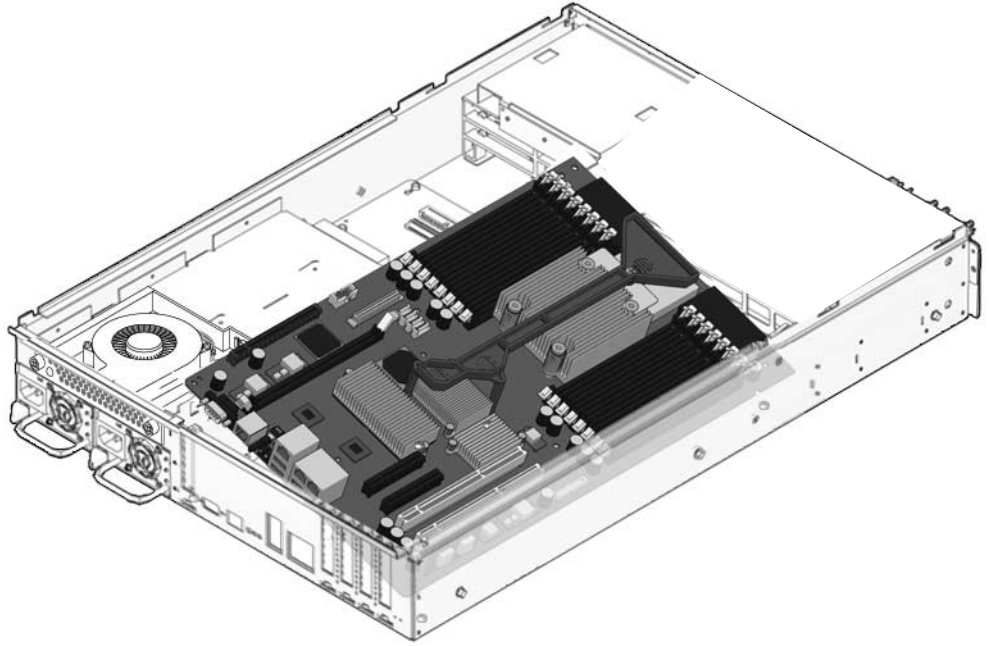

FIGURE 5-15 Installing the Motherboard Assembly
2. **Tilt the motherboard assembly over the interior wall into the chassis (FIGURE 5-15) and place it down on the rear standoffs**